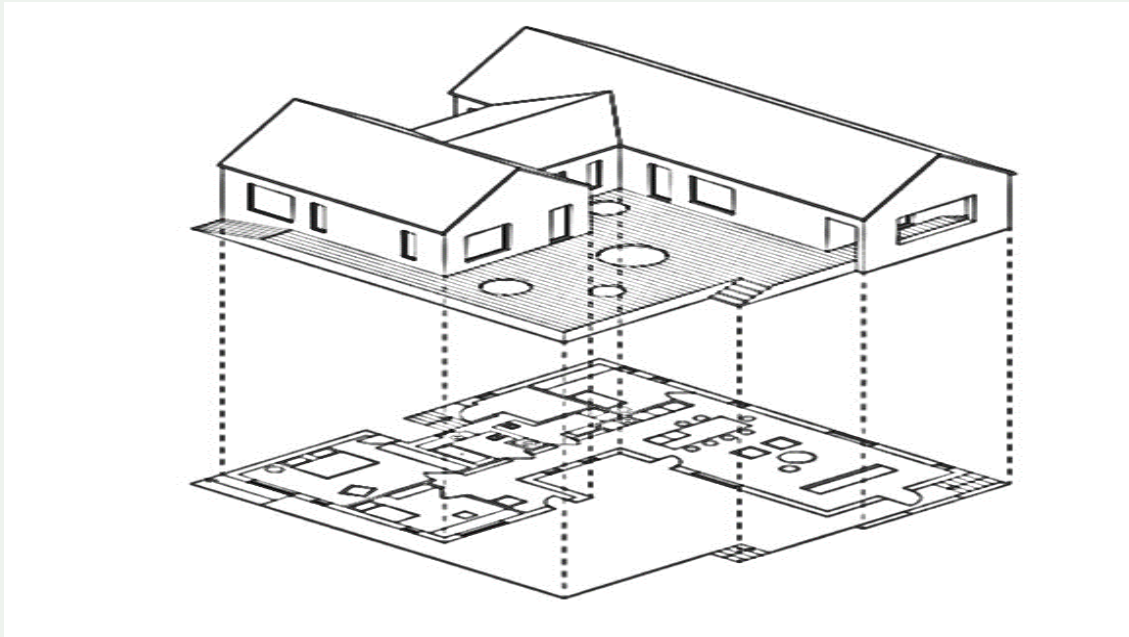

Figure 3.1.8: Building Drawing
- Study the** building drawing in Figure 3.1.8 and sketch the following elevations: